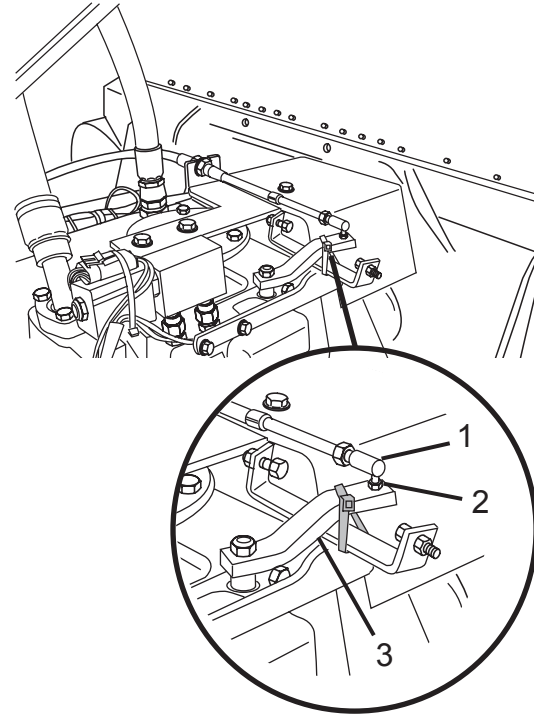

Figure 79
1. Pull back and hold the head (Figure 79, Item 1) of the control cable, and lift the end of the cable off the pivot (Figure 79, Item 2) to disconnect the control cable from the pump control lever (Figure 79, Item 3).
2. Move the pump control lever (Figure 79, Item 3) as required to start the drum rotation in the charge or discharge direction.